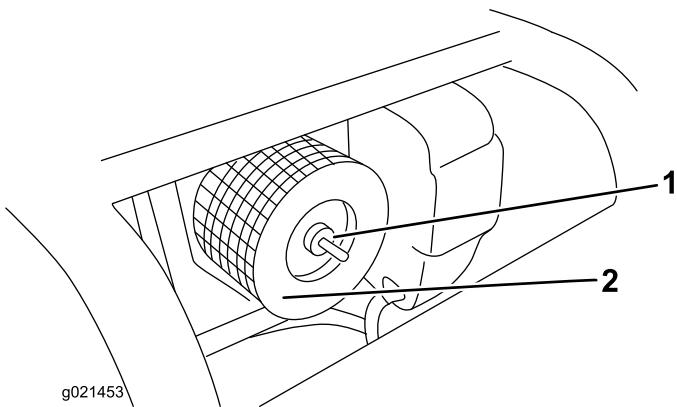

Figure 18
- Unscrew the nut and remove the paper element (Figure 18).
6. Install the air cleaner cartridge, ensure that it is properly positioned, and secure it with the knurled nut (Figure 18).